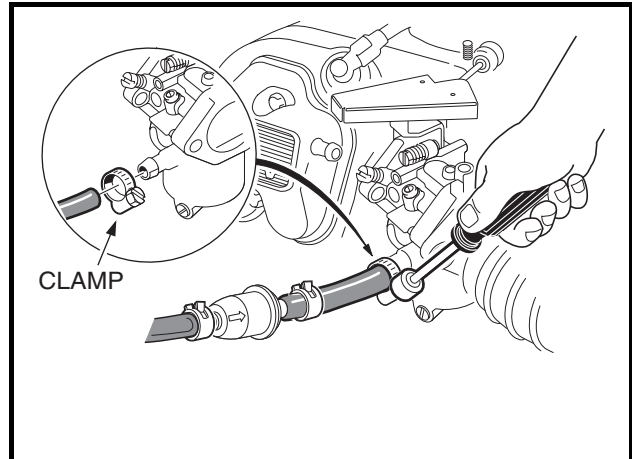

Figure 16-52 Connect Fuel Line
29. Pull fuel line from impulse line fitting of the fuel pump and connect it to the carburetor and secure with a hose clamp (**Figure 16-52, Page 16-21**).